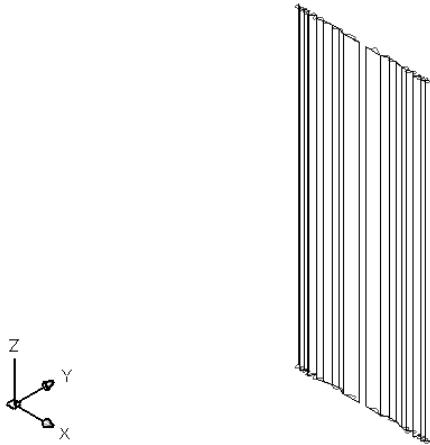

Figure 23-33: The completed drapes.
8. Save your drawing. It should look like Figure 23-33.